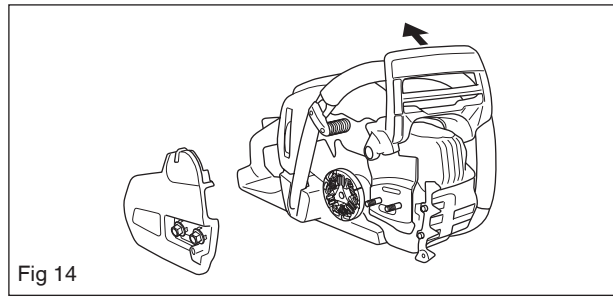

Fig 14
1. Remove the cylinder cover. Release the brake by moving the kickback guard backwards. Loosen the bar nuts and remove the clutch cover, chain and bar. See figure 14.